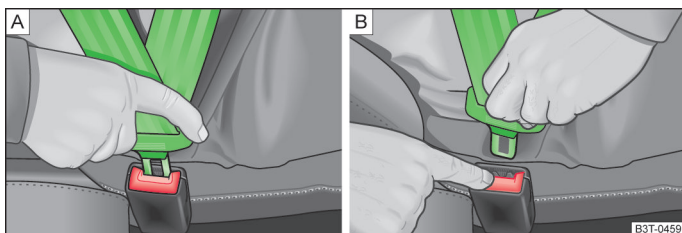

Fig. 22 Insert the lock tongue of the seat belt into the belt buckle / Release the lock tongue from the belt buckle
- Insert the lock tongue firmly into the belt buckle belonging to the seat  » fig. 22 - A.
- Press the red button in the belt buckle  » fig. 22 - B. The lock tongue pops out.